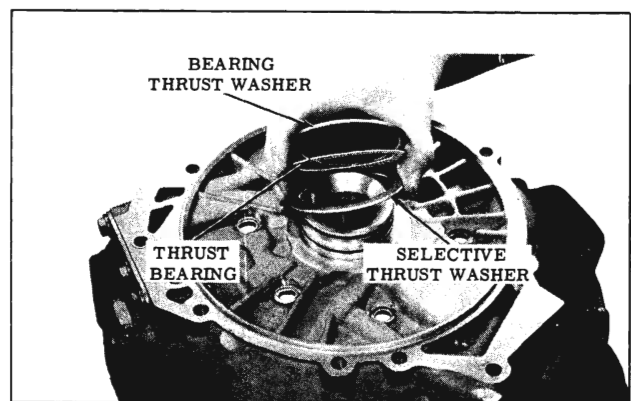

Fig. 3-276 Removing Case Cover Bearing
2. Remove cupped race, thrust bearing and the selective washer. (Fig. 3-276)